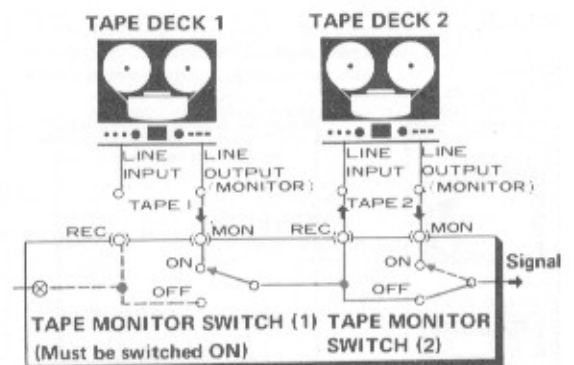

Fig. 6
1. Connect two tape decks as shown in Fig. 6.